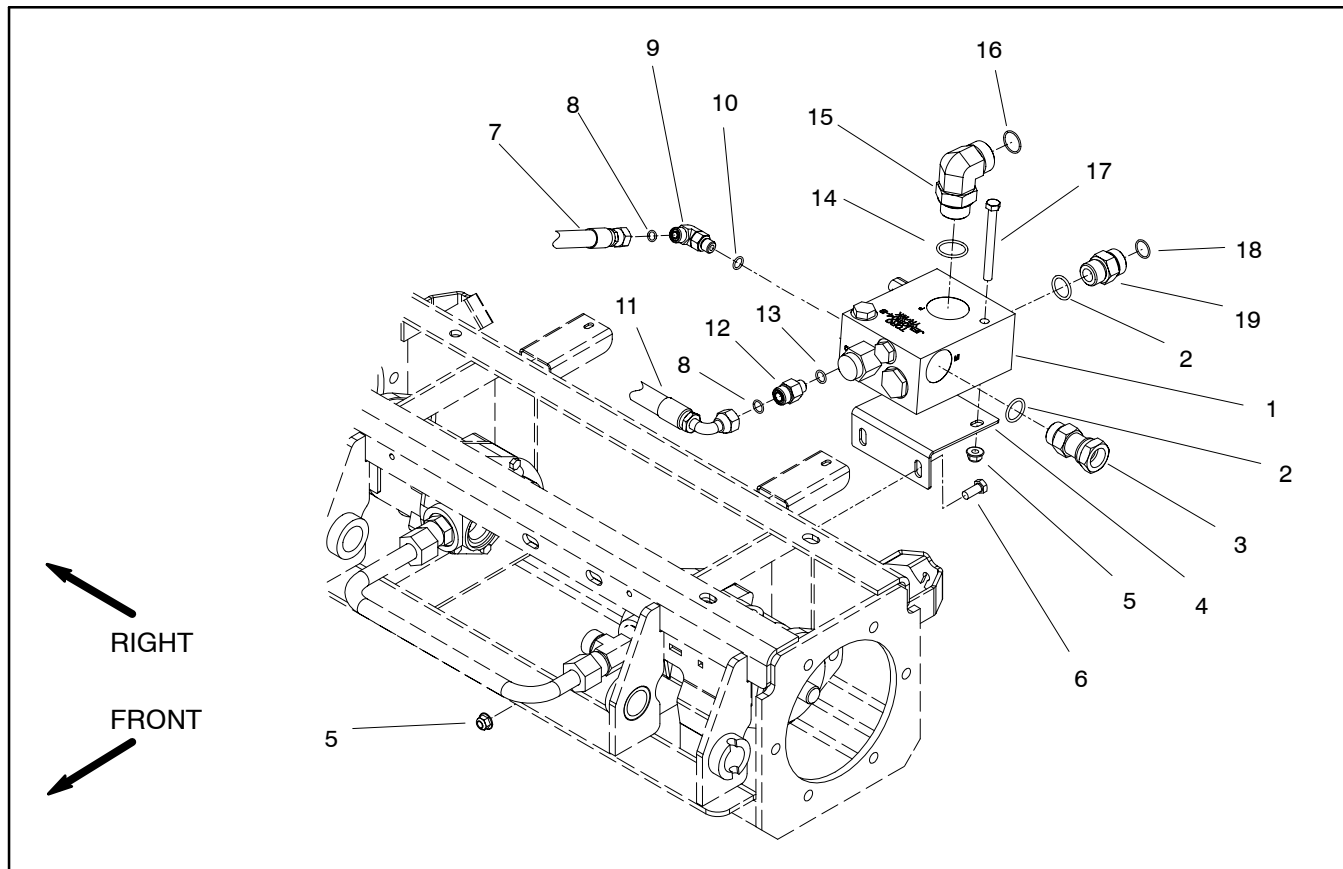

Figure 58
3. Remove hydraulic manifold from the frame using Figure 58 as guide.
1. Install hydraulic manifold to the frame using Figure 58 as guide.